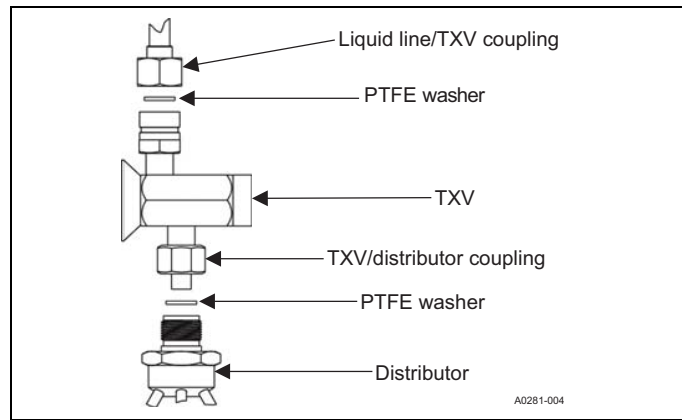

Figure 11: TXV installation
- Install the thermal expansion valve into the distributor assembly with the supplied fittings. Ensure the PTFE washer is seated in the distributor. Hand tighten and turn an additional 1/4 turn to seal. Do not over-tighten fittings. See **Figure 11**.